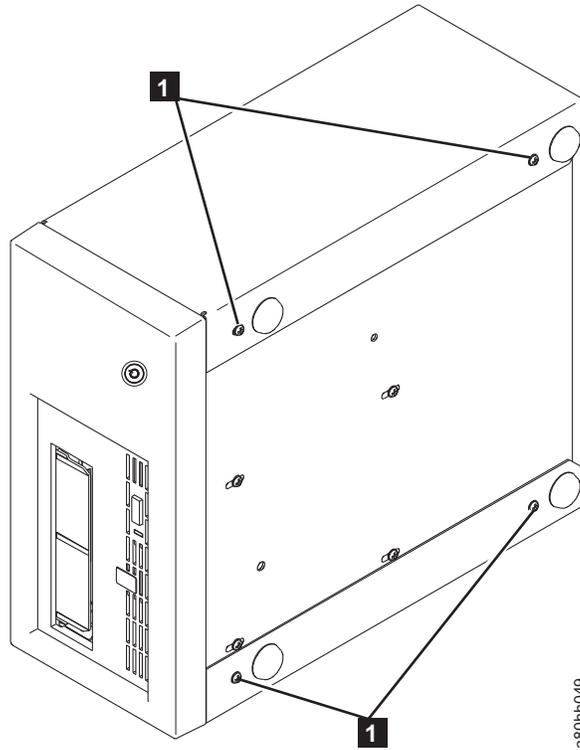

Figure E-1. Removing the screws that secure the cover and internal drive
4. Remove the 4 screws ( **1** in Figure E-1 on page E-2) by the feet.